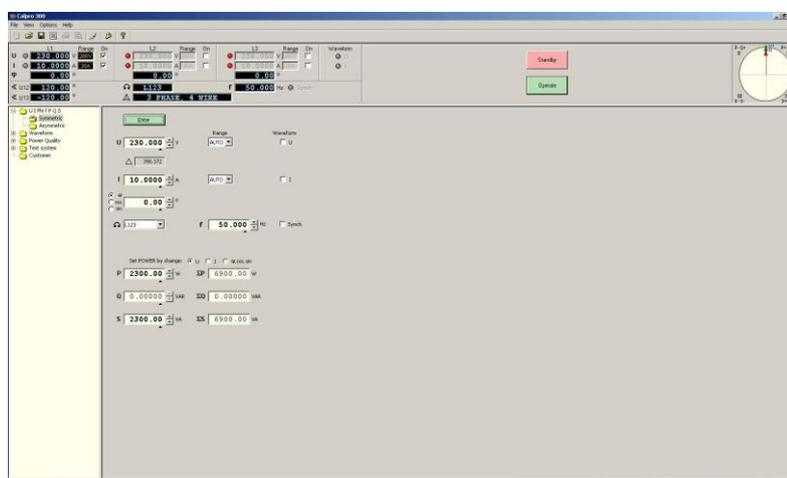

Fig.3 Main window of *Calpro 300* PC Soft
- set up the nominal value for the electricity meter current and voltage and press the *Operate* button as in Fig.3,